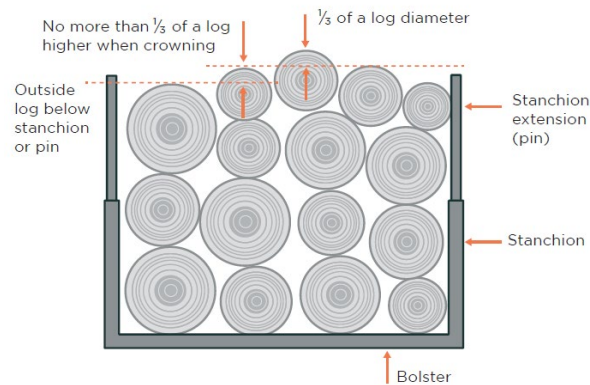

Figure 34: Maximum permitted log heights with crowning
24.3.24 Make sure no more than one-third of the end diameter of any log is above the top of a cab guard, headboard, tailboard, or stanchion pin (Figure 34).